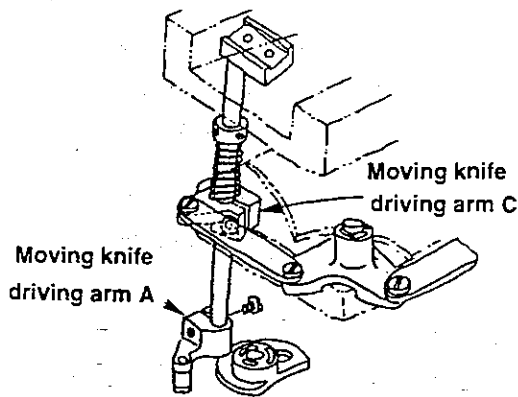
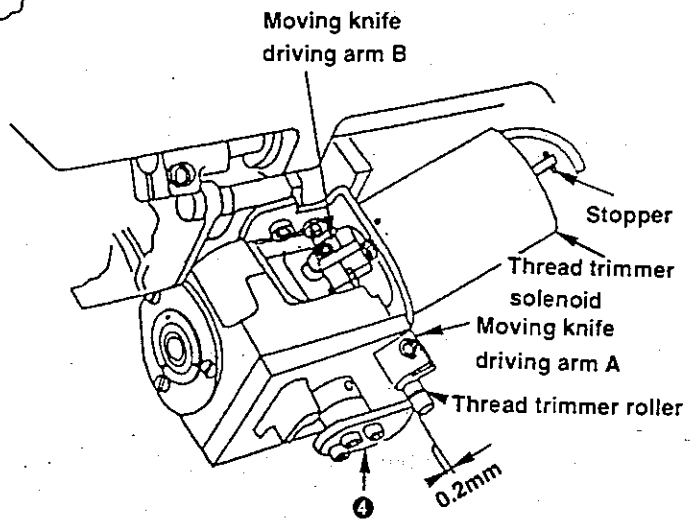

Fig. 6
Fig. 5
<p>4) Moving knife driving arms A, B and C</p> <p>(1) In case of the right-hand side hook, loosen the screws of moving knife driving arms A and B, and adjust so that the top end of moving knife is spaced 0.5 mm from the top end of the counter knife. In case of the left-hand side hook, loosen the screws of moving knife driving arms A and C, and adjust the same way as the right-hand side hook. (Fig. 4, Fig. 5 and Fig. 6)</p> <p>(2) Put the stopper of the plunger of the thread trimmer solenoid onto the main body of the solenoid, and tighten the clamping screws in the moving knife driving arms B and C. (Fig. 5 and Fig. 6)</p> <p>(3) Adjust so that a clearance of 0.2 mm is provided between the thread trimming cam and the thread trimming cam roller when the thread trimming cam is brought to the highest position of its stroke. (for both the right-hand and left-hand side hooks) (Fig. 5)</p> <p>(4) Tighten the clamping screw in the moving knife driving arm A.</p>	<p>If the distance from the top end of the counter knife to the top end of the moving knife is larger than the specified value :</p> <ul style="list-style-type: none"> • The moving knife may overrun after trimming the thread, resulting in clamping failure. <p>If the distance from the top end of the counter knife to the top end of the moving knife is smaller than the specified value :</p> <ul style="list-style-type: none"> • The main body of the solenoid may come in contact with the stopper of the plunger at the time of thread trimming. <p>Item to be confirmed : Turn the handwheel by hand to make the sewing machine perform thread trimming and align the top end of the moving knife with the top end of the counter knife. This is the initial position of the thread trimming mechanism. At this time, confirm that a clearance of 0.05 to 0.15 mm is provided between the stopper of the thread trimming solenoid and the main body of the thread trimming solenoid.</p>